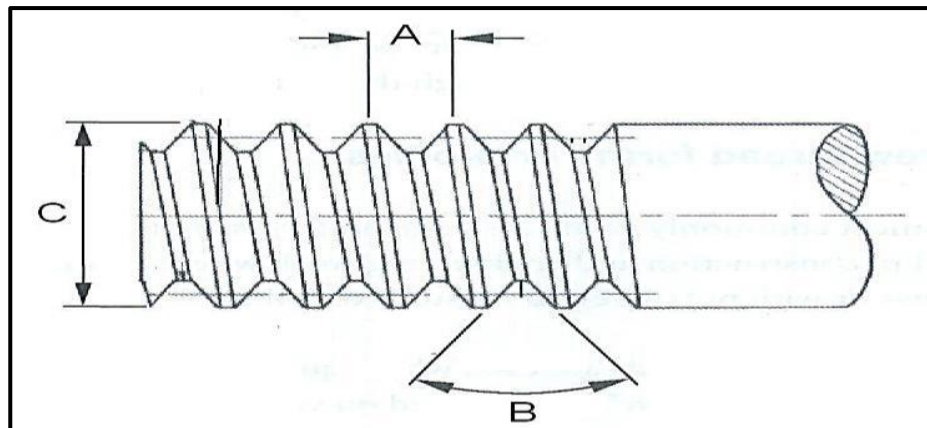

FIGURE 10.1
10.1 Screw threads are fundamental to industrial progress, FIGURE 10.1 is an external metric screw thread which can be manufactured by cutting on a lathe.
1 FIGURE 10.1 and write down the DEFINITION for each label. (3 + 3) (6)
10.2 A 6-mm pitch, three-start screw thread is to be cut on a centre lathe. Calculate the lead of the screw thread. (3)